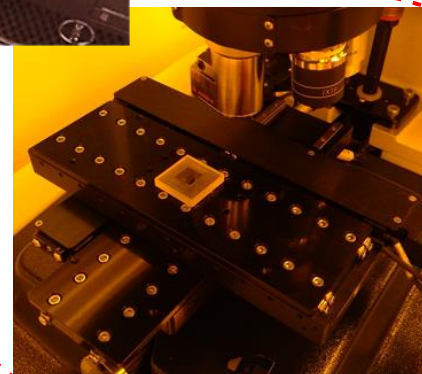

Figure 2
- 4.4. Place the VLSI standard on the center of the stage as shown in Figure 2